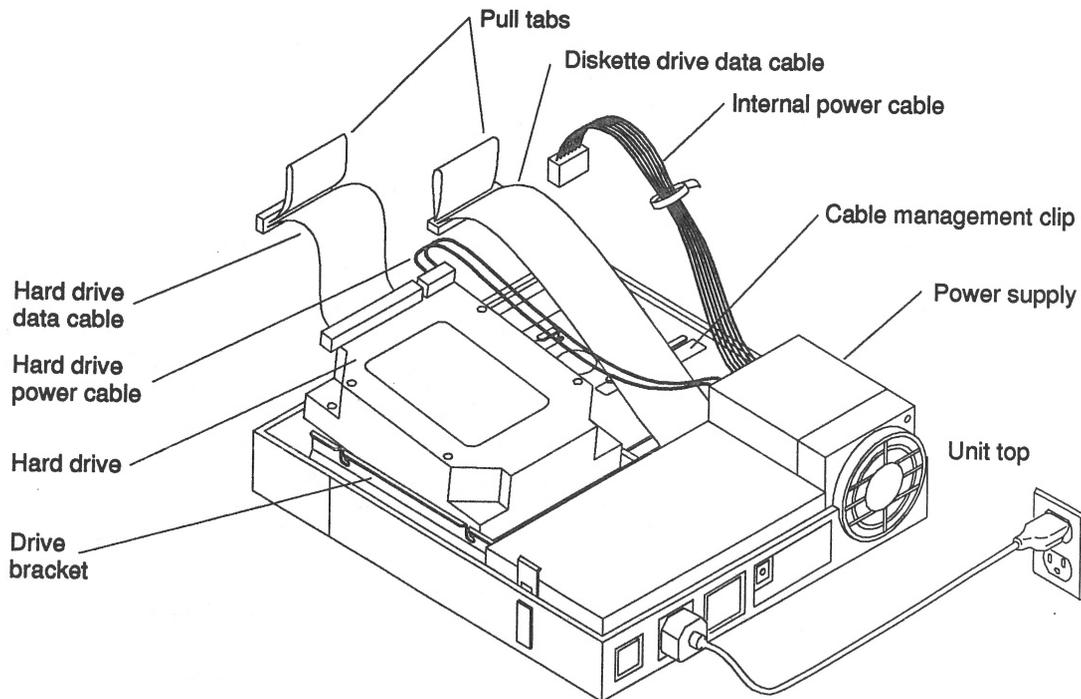

Figure 6-7 Installing a Hard Drive
5. **Slide the disk drive into the bracket toward the power supply and tighten the four screws. Refer to Figure 6-7.**